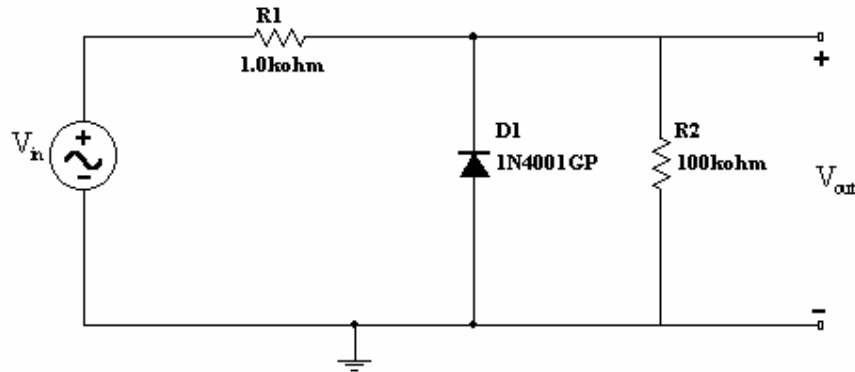

Fig.4: A shunt Clipper
1. Construct the circuit shown in Figure 4. Connect a 2 KHz, 10 V_{p-p} sine wave to the input and use the oscilloscope to observe the input and output signals.